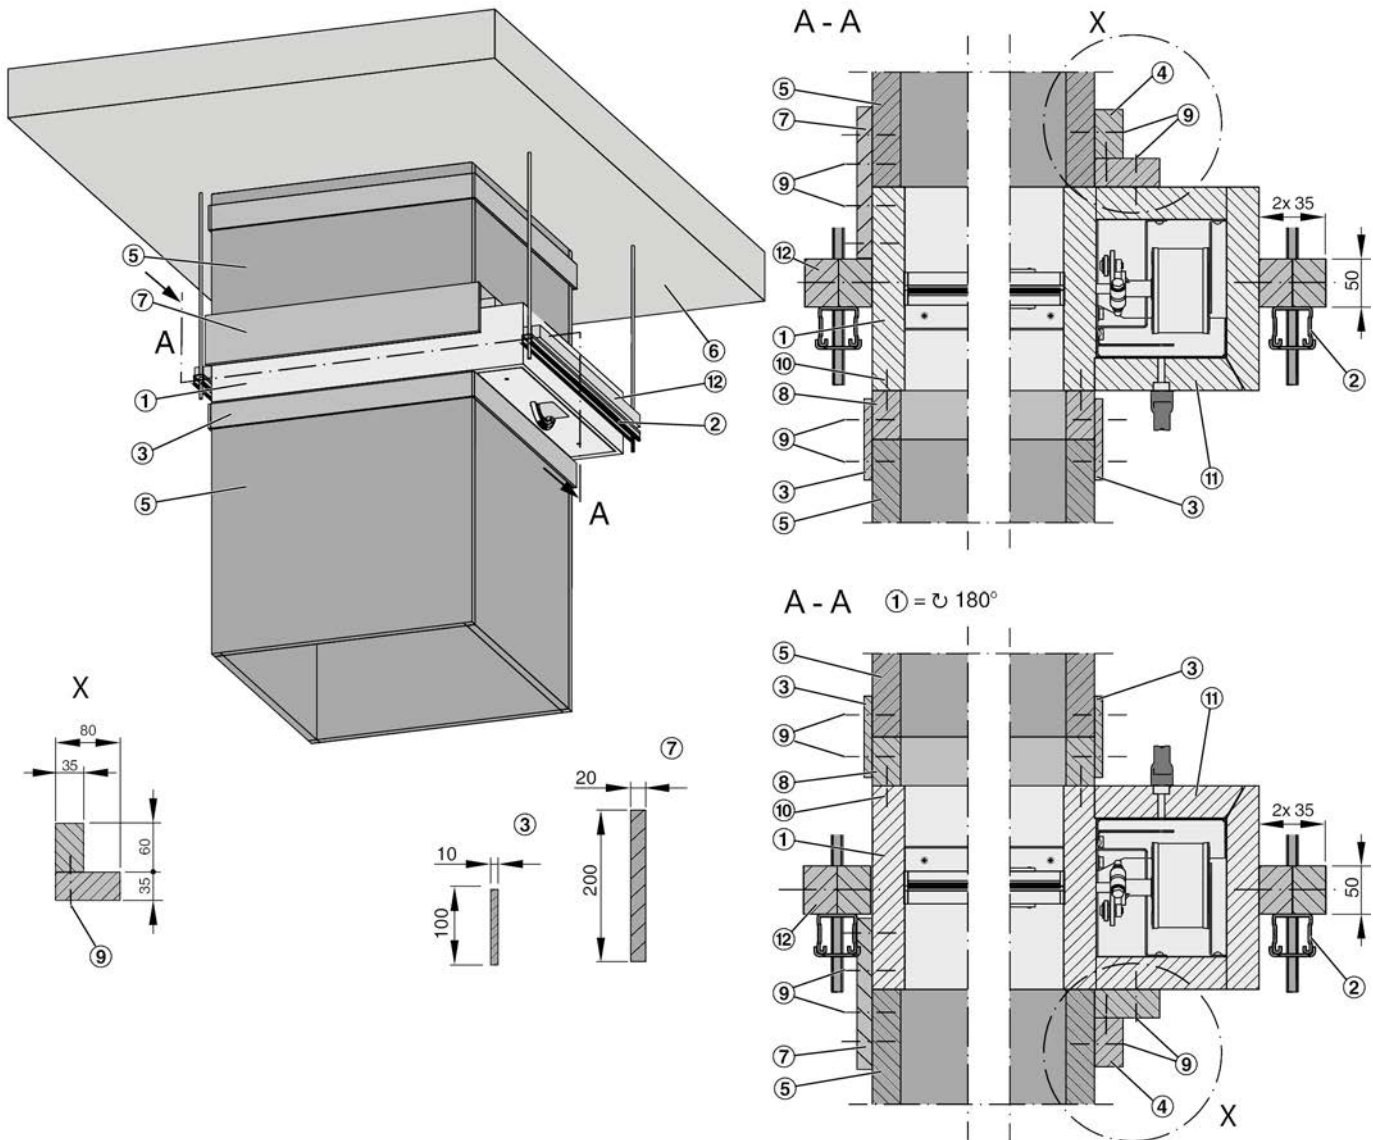

Fig. 30: Installation in a fire-resistant vertical smoke extract duct, operating side at top or bottom (see cross-sections)
2. ▶ Attach a connecting subframe ( Fig. 30 /8) to the smoke control damper on the operating side.
3. ▶ Attach the reinforcing board ( Fig. 30 /12) to the smoke control damper.
5. ▶ Connect an angle section ( Fig. 30 /4) between the actuator encasing of the smoke control damper and the fire-resistant smoke extract duct. Glue the joints to each other and to the casing.
6. ▶ If the smoke extract duct and smoke control damper are flush, the damper can be connected with connecting strips ( Fig. 30 /3 and /7).